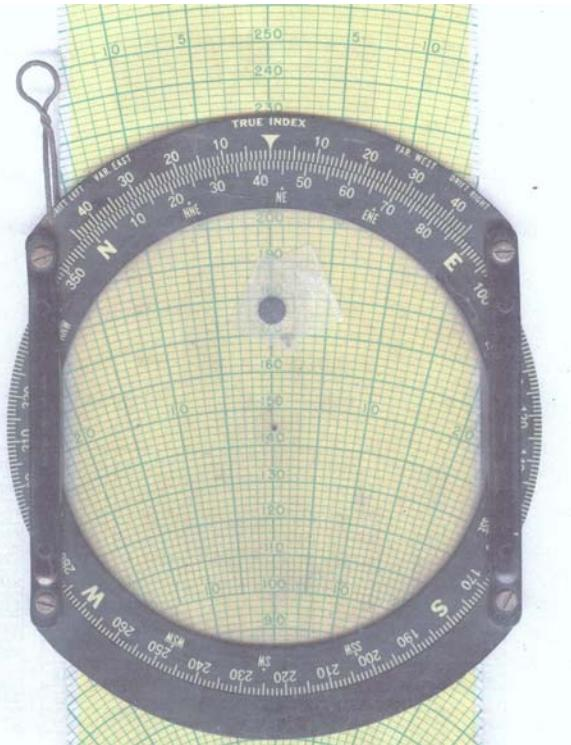

Fig 22: E-6B Wind Face
- f. Rotate the movable ring to place the pencil mark on the vertical centerline of the slider; above the center dot of the disc per Fig 22. This indicates a wind direction of 041°.